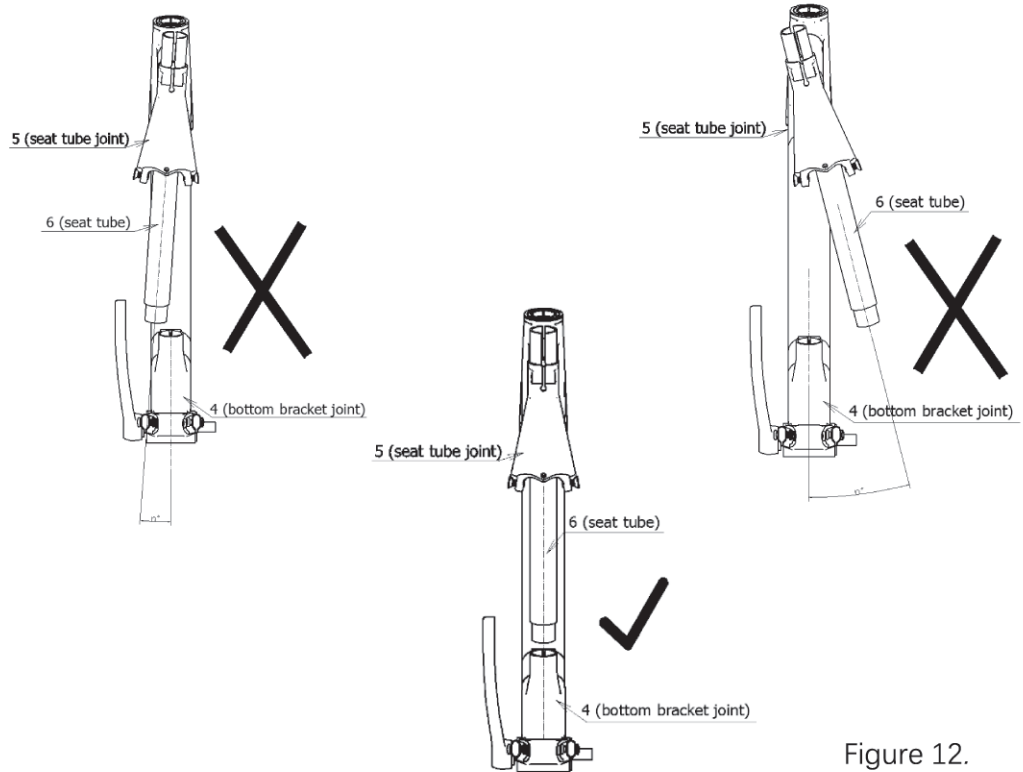

Figure 12.
a. Look at the frame from the back and adjust the angle of Part 6 and Part 4 so that they are in a straight line, as shown in Figure 12.